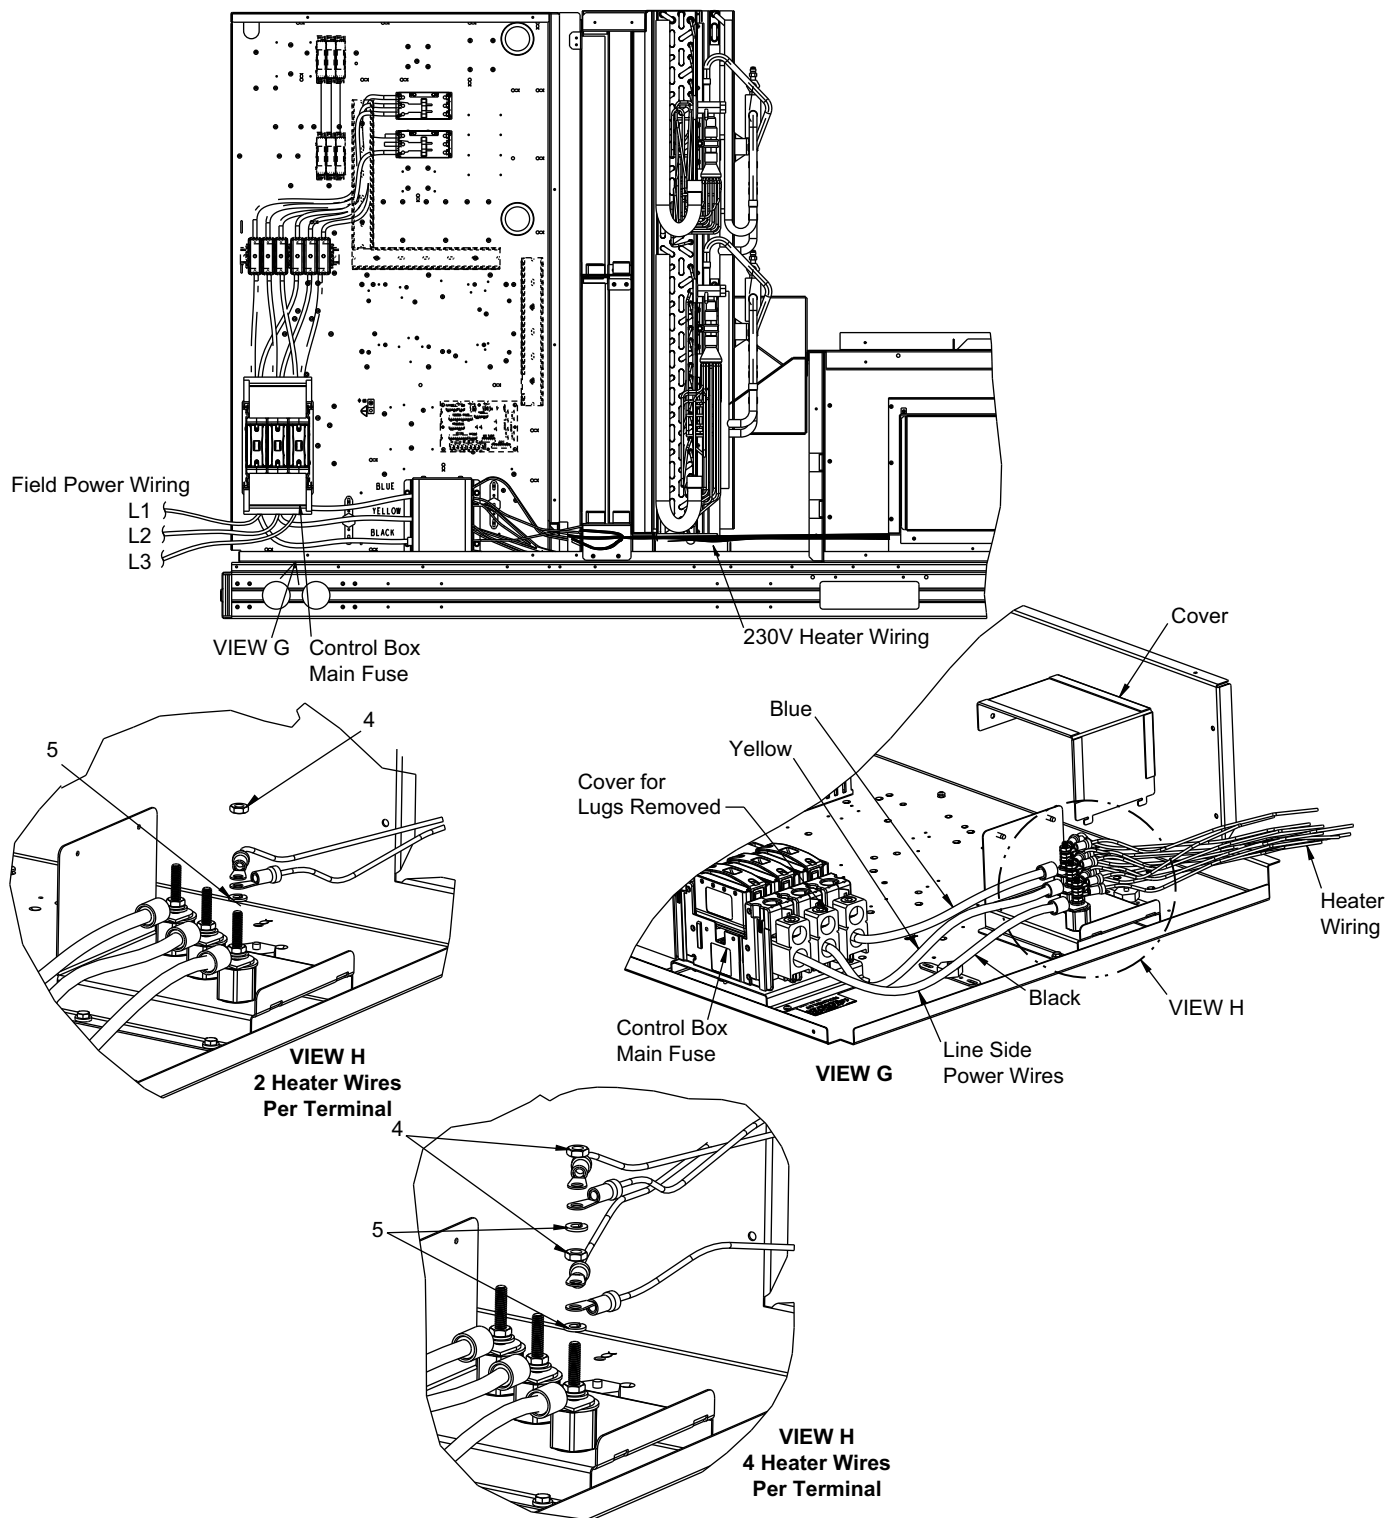

Fig. 53 — 230V Single Point Power Assembly Location (High SCCR)
1. Install terminal block assembly in location shown in Fig. 53.
For 4 wire/leg assembly: add lock washers (Item 5), turn bottom two wires so barrel of terminal is down as shown in Fig. 53. Add nut (Item 4) and tighten to 9-10 Nm (79 in.-lb). Add second lock washer (Item 5), the top two wires shall be installed with barrels "up." Add second nut (Item 4) and tighten to 9-10 Nm (79-88 in.-lb).